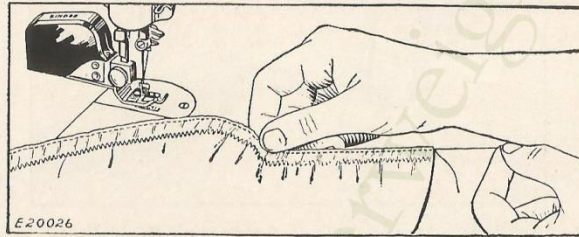

FIG. 251. DRAWING UP MACHINE BASTING THREADS AND DISTRIBUTING FULLNESS OF HEM EVENLY
- c—Draw up the basting threads, as shown in Fig. 251, and distribute the fullness of the hem evenly until the edge lies smoothly throughout the entire length of the hem.